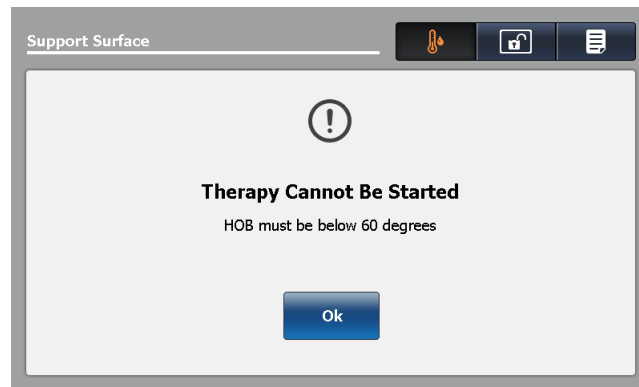

Figure 63: Therapy cannot be started
**Note:** Make sure that the head of bed (HOB) angle is less than or equal to 60° to avoid the therapy cannot be started notification (Figure 63 on page 72).